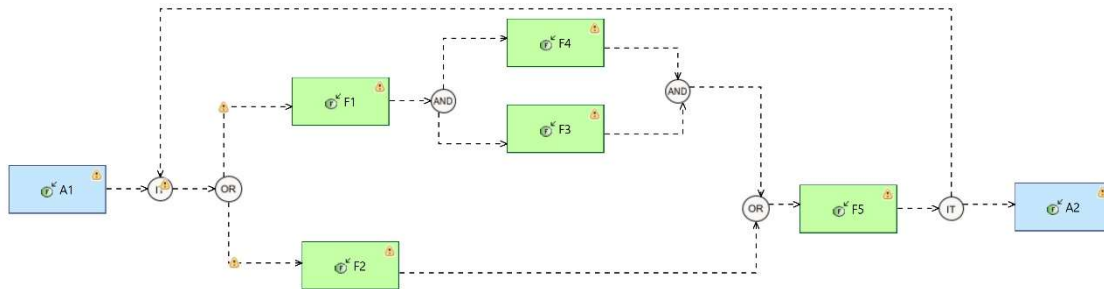

Figure 6 Functional Chain Description with Control Nodes
- Add control nodes and sequence links. An example is shown in Figure 6.